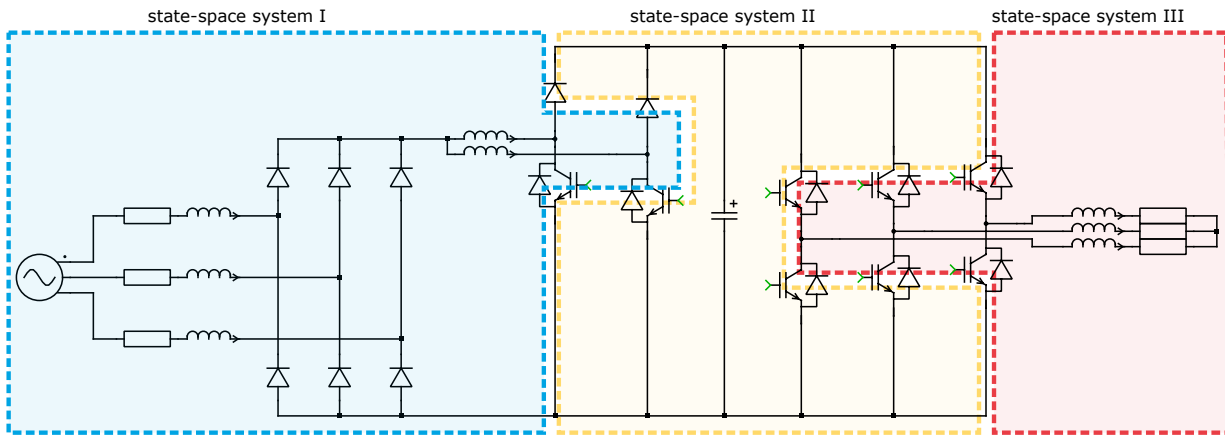
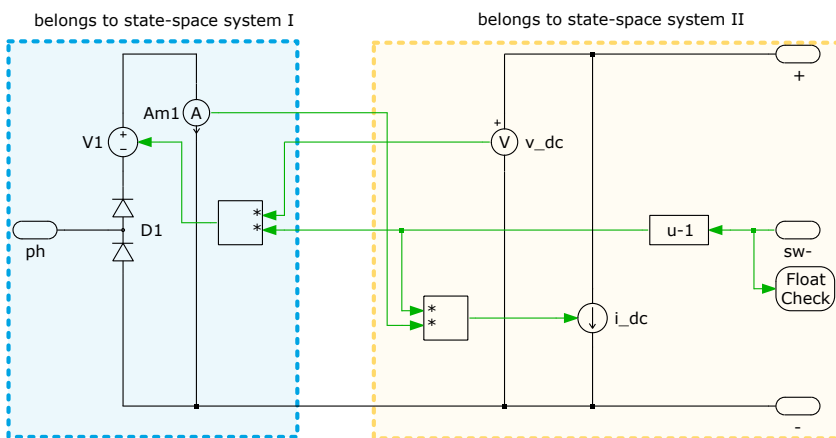
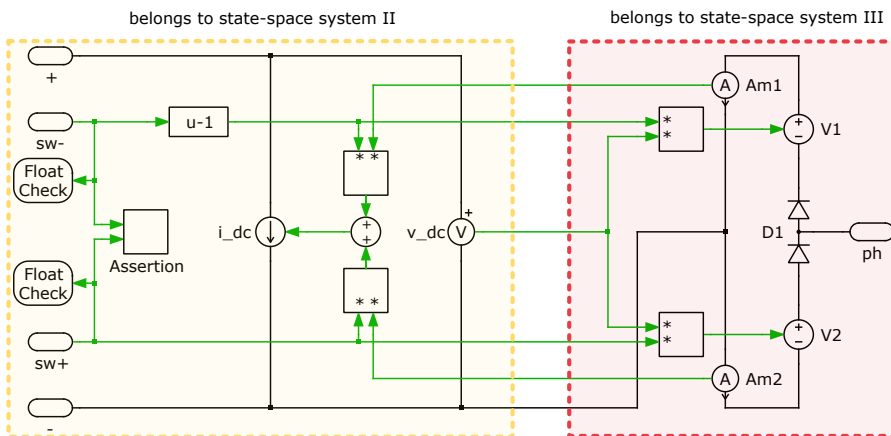

Figure 4: Three state-space systems generated by enabling state-space splitting function on the target system
Figure 5: Look-under-mask view of the Boost leg in sub-cycle average configuration with state-space splitting function enabled
Figure 6: Look-under-mask view of the Half Bridge inverter leg in sub-cycle average configuration with state-space splitting function enabled
- Ⓐ There are three Diagnostics messages describing three independent state-space models. Click on each message, one should see a list of components which compose each state-space model. Meanwhile these components are highlighted in the schematic for easy inspection. These three state-space systems are circled by different colors, and depicted in Fig. 4. Next, Fig. 5 shows the look-under-mask view of one Boost converter leg in Sub-cycle average configuration. And Fig. 6 shows the look-under-mask view of the Half Bridge inverter leg in Sub-cycle average configuration. It is clear that the DC-side circuit of the Half Bridge inverter belongs to the middle state-space system together with the DC capacitor, and the DC-side circuit of the Boost converter leg. Whereas the Half Bridge inverter phase-side circuit belongs to the right state-space system together with the three-phase loads.
Specifically in our model, the DC capacitor in the state-space system II links both the Boost leg and the Half Bridge inverter leg. Seen from state-space system II in Fig. 5 and state-space system II in Fig. 6, the DC-link capacitor has Controlled Current Sources in parallel on both left and right side.